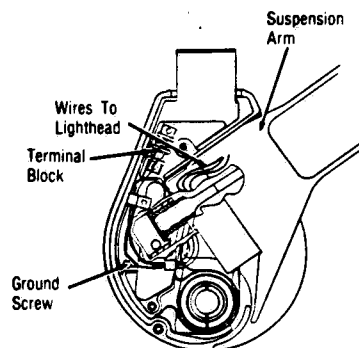

Figure 4-14. SUSPENSION ARM FORK TERMINAL BLOCK.
1. Remove fork covers and disconnect wires from terminal block and ground wire from attachment to fork casting. (See Figure 4-14)